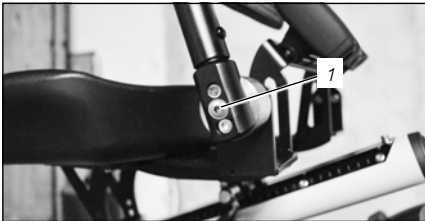

Fig.:16
If your bicycle/tricycle is equipped with a locking disc adjustment mechanism (see "Fig.:16"), proceed as follows:
1. To move the backrest to an optimal or comfortable seating position, you must loosen the adjustment screw (left and right) (see "Fig.:16 (1)") with a suitable tool.